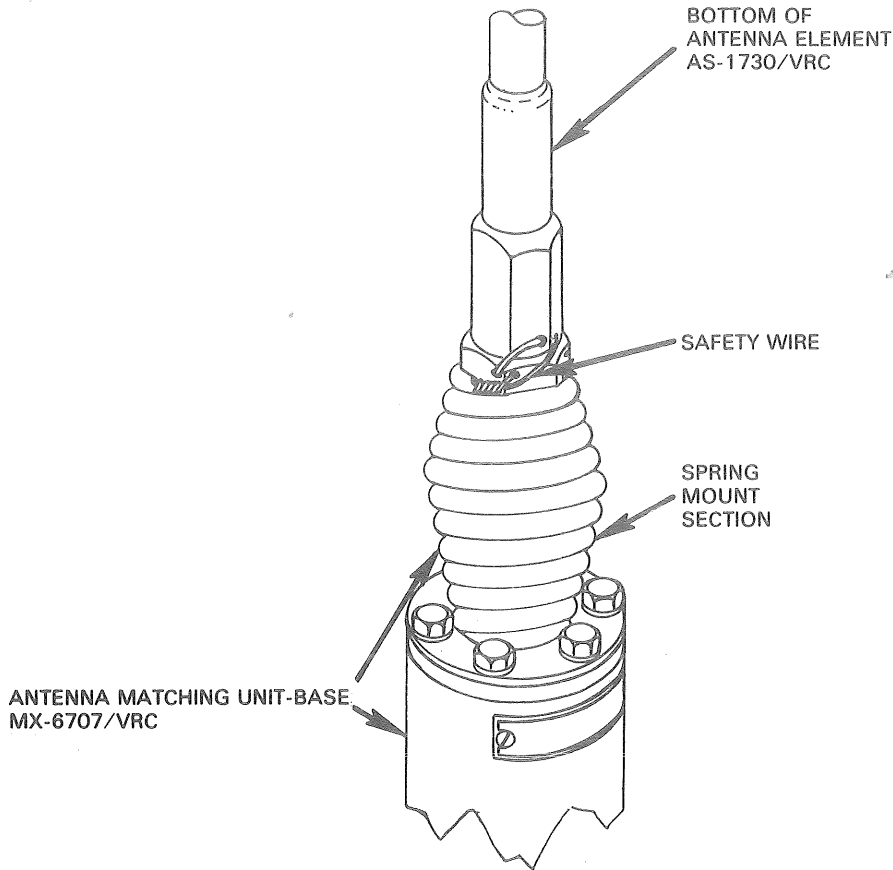

Figure 5. Tying safety wire between AS-1730/VRC and MX-6707/VRC of AS-1729/VRC.
- (2) On AS-1729/VRC, insure that the safety wire is secured between the lower mast section and the spring section of the antenna matching unit as shown in figure 5.